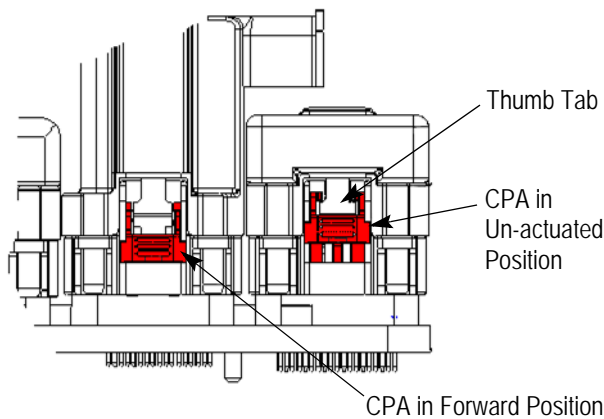

Figure 4
4. UNMATING PROCEDURE (Figure 4)